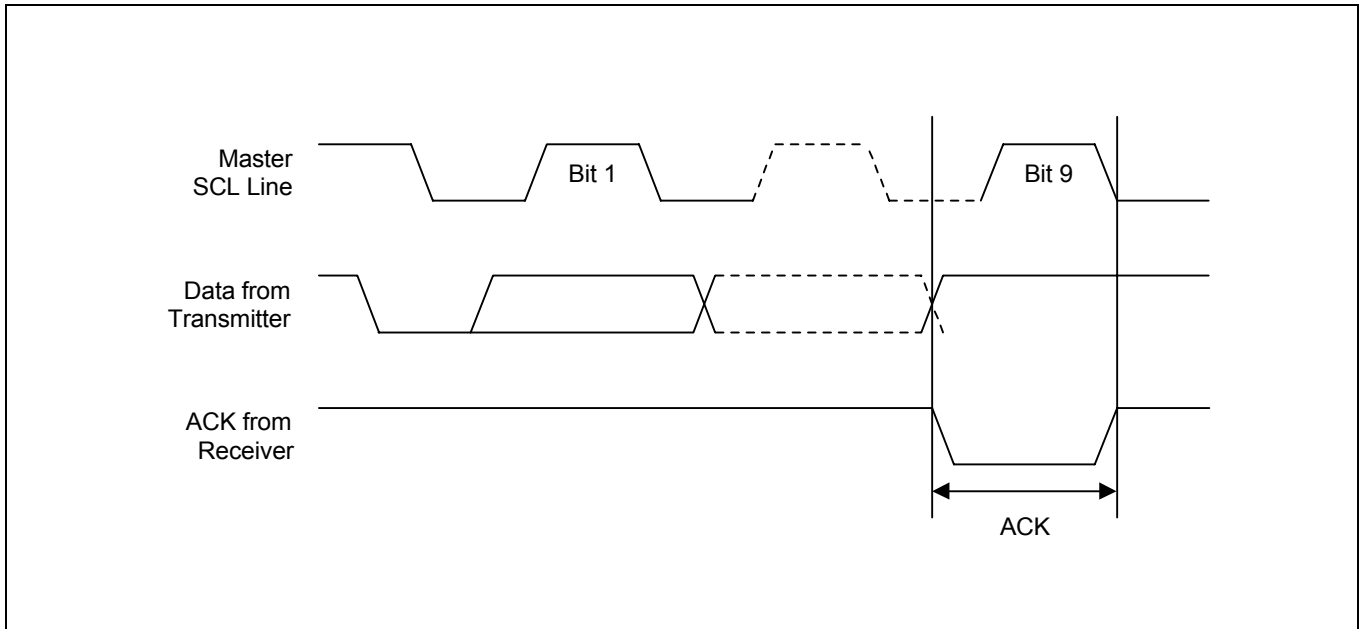

Figure 1-8. Acknowledge Response From Receiver
- **ACK (Acknowledge):** An ACK signal indicates that a data transfer is completed successfully. The transmitter (the master or the slave) releases the bus after transmitting eight bits. During the 9th clock, which the master generates, the receiver pulls the SDA line low to acknowledge that it successfully received the eight bits of data (see Figure 1-8). But the slave does not send an ACK if an internal write cycle is still in progress.